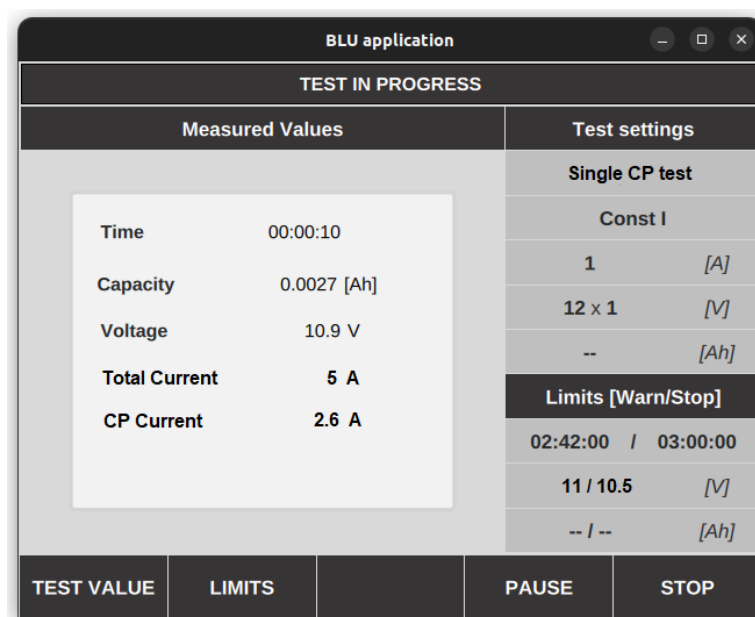

Figure 4-7: Test screen – CP Load Current
### 1. Numerical parameters (visible on Figure 4-7)
- Total Current (5 [A] on the Figure 4-7) – selected discharge current